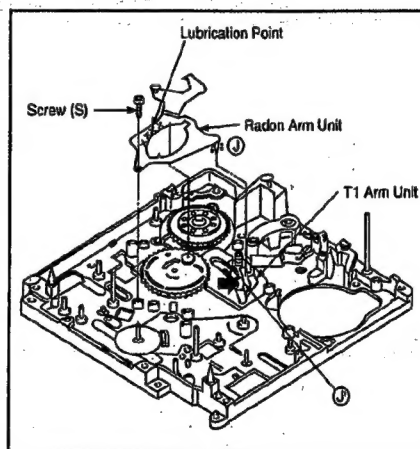
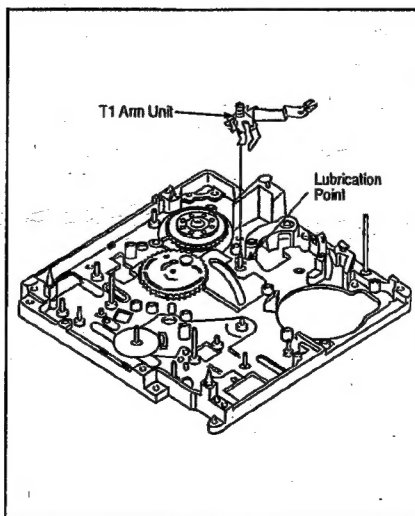

Fig. M26
Fig. M27
- Fig. M26 Unscrew 2 screws (R) and remove Radon Plate.
- Unscrew screw (S) and remove Radon Arm Unit.
- Fig. M27 Remove the T1 Arm Unit.